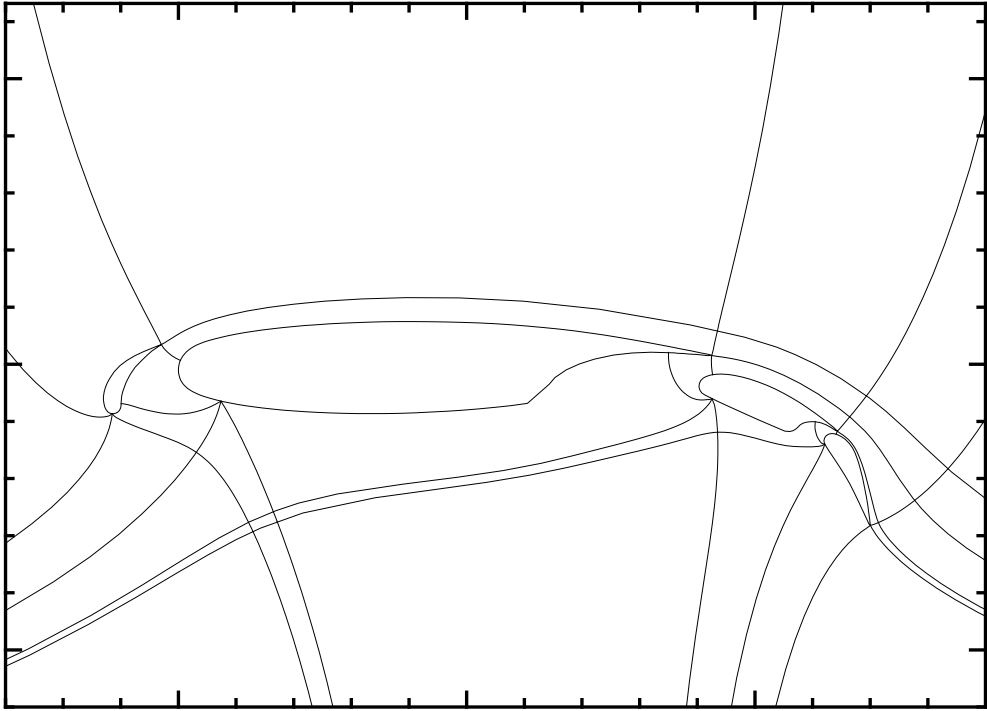

Figure 6.1: Domain decomposition for Test Case 1
4. Domain decomposition plot (figure 6.1)